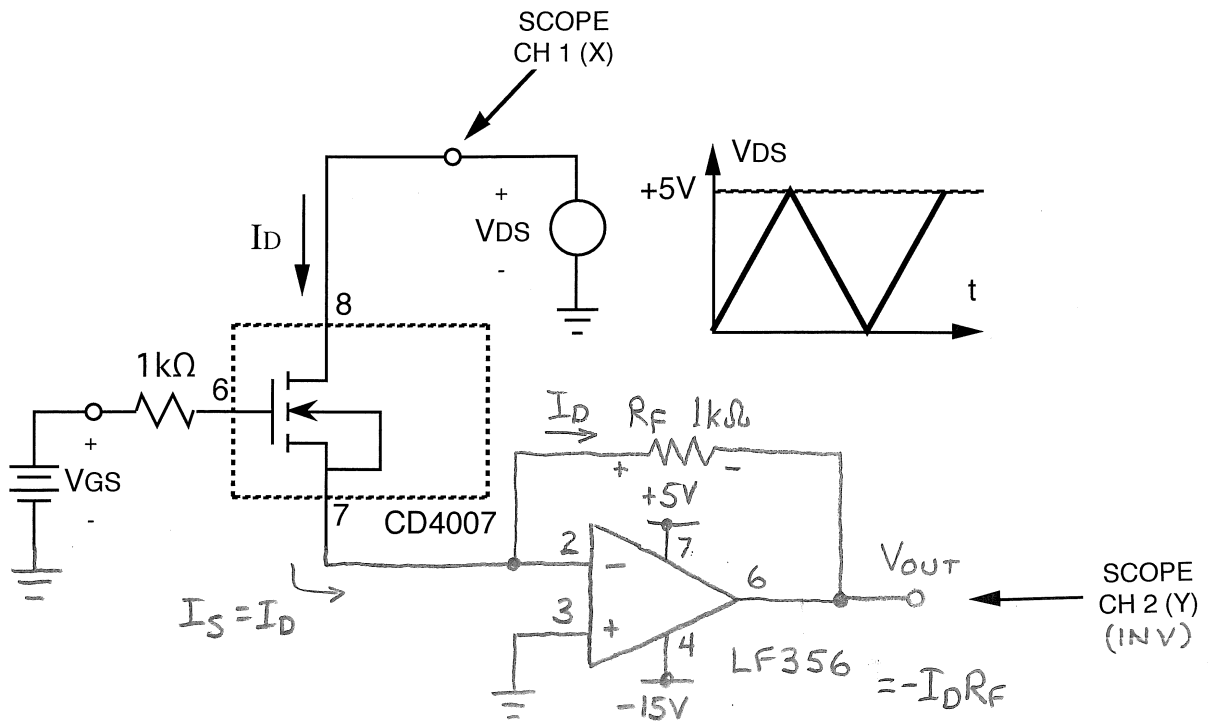

Fig. L3-1.
- L3-1. Build the circuit in Fig. L3-1. The MOSFET gate-source voltage will be maintained at a constant value while the drain voltage is swept from 0V to 5V. From Kirchoff's law for the MOSFET the current I_S at the source must equal the current I_D at the drain, since the gate current and substrate current are both zero. The LF356 is configured as a transimpedance amplifier which keeps the source of the MOSFET (CD4007 pin 7) at zero volts while allowing the current to flow in the feedback resistor R_F . The output of the transimpedance amplifier is given by $V_{OUT} = -I_D R_F$, so the oscilloscope CH2 voltage will be $V_{OUT} = -1k\Omega I_D$. Therefore, if the CH 2 scale is set to 1V/div, and the "Invert" function is used on scope CH 2, then the scope display will be equivalent to a current measurement of I_D at 1mA/V.